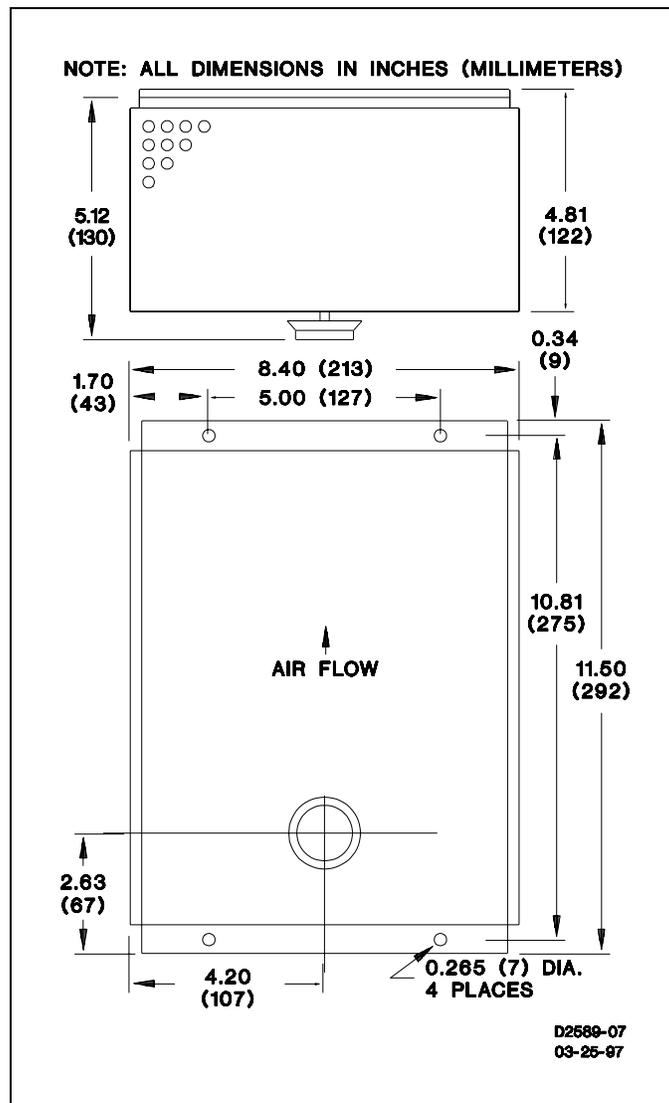
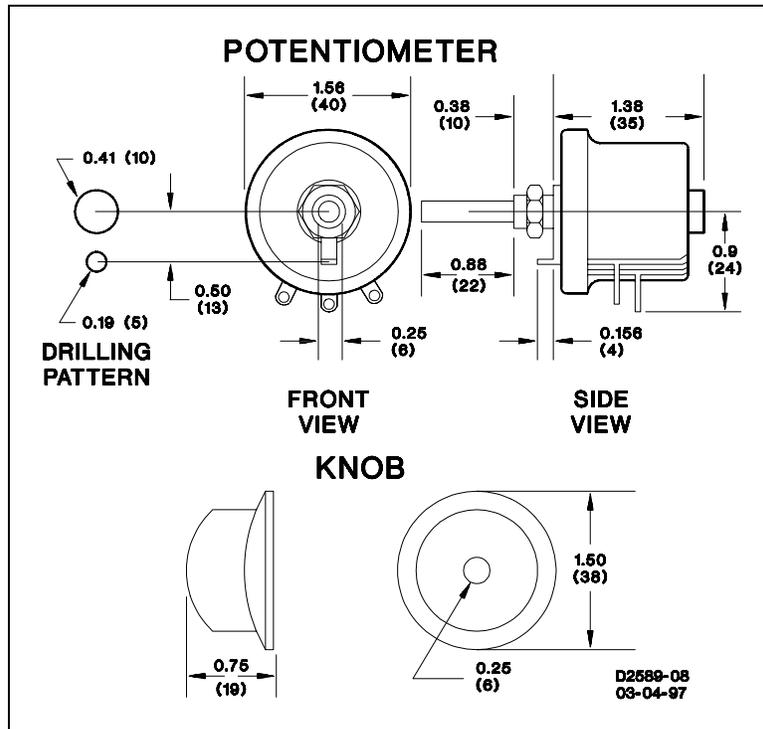

Figure 3-1. Outline Drawing.
Figure 3-2. Voltage Adjust Potentiometer (P/N 03456).
support. See Figure 3-2 for a typical interconnection diagram. This scheme uses the other contact on the buildup relay to connect dc voltage from the exciter armature directly to the exciter field. As an alternative, the regulator could be used as described in paragraph 2-3a. with an excitation support system accessory.
(1) Parallel operation requires additional components in the regulating system. These are resistor R25, transformer T3 and a current transformer CT1. Two of the components are included in a parallel equipped voltage regulator. These are R25 and T3. Current transformer CT1 is a separate item and must be interconnected as shown in Figures 3-2 or 3-3.
(2) These components allow the paralleled generators to share reactive load and reduce circulating reactive currents between them. This is accomplished in the following manner.
(3) A current transformer CT1 is installed in phase B of each generator. It develops a signal that is proportional in amplitude and phase to the line current. This current signal develops a voltage across resistor R25. A slider on R25 supplies a part of this voltage to the primary of the transformer T3. The secondaries of T3 are connected in series with the leads from the secondary of the sensing transformer T1, and the sensing rectifiers located on the printed circuit board. The ac voltage applied to the sensing rectifier bridge is the vector sum of the stepped down sensing voltage (terminals E1 and E3) and the parallel CT signal supplied through T3 (terminals 1 and 2). The voltage supplied to the sensing rectifiers by the parallel CT is very small in relation to the signal supplied by the sensing voltage. The regulator input sensing voltage (terminals E1 and E3) and the parallel compensation signal (terminals 1 and 2) must be connected to the generator system so as to provide the correct phase and polarity relationship.
(4) Regulators with single-phase sensing provide about 8% maximum droop while three-phase sensing regulators provide 6% droop. When generators are paralleled on the same bus and have different type sensing, care must be taken to compensate for these differences using the slide wire adjustment on the droop resistor R25.
(5) When a resistive load (unity P.F) load is applied to the generator, the voltage that appears across R25 (and T3 windings), leads the sensing voltage by  $90^\circ$ , and the vector sum of the two voltages is nearly the same as the original sensing voltage; consequently, almost no change occurs in generator output voltage.
(6) When a lagging power (inductive) load is applied to the generator, the voltage across R25 becomes more in phase with the sensing voltage and the combined vectors of the two voltages results in a larger voltage being applied to the sensing rectifiers. Since the action of the regulator is to maintain a constant voltage at the sensing rectifiers, the regulator reacts by decreasing the generator output voltage.
(7) When a leading power factor (capacitive) load is applied to the generator, the voltage across R25 becomes out of the phase with the sensing voltage and the combined vectors of the two voltages results in a smaller voltage being applied to the sensing rectifiers, then the regulator reacts by increasing the generator voltage.
(8) When two generators are operating in parallel, if the field excitation on one generator should become excessive and cause a circulating current to flow between generators, this current will appear as a lagging power factor (inductive) load to the generator with excessive field current and a leading power factor (capacitive) load to the other. The parallel Compensation circuit will cause the voltage regulator to decrease the field excitation on the generator with the lagging power factor load, and increase the field excitation on the generator with the leading power factor load, so as to minimize the circulating currents between the generators.
The voltage regulator will operate when mounted in any position, however, it should be vertically mounted to obtain optimum cooling when operating near its full rated output. The regulator can be mounted in any location where the ambient temperature does not exceed its ambient operational limits. Due to its rugged construction, the regulator can be mounted directly on the generator. The overall and mounting dimensions are shown in Figure 3-1. The mounting dimensions of the associated potentiometers are shown in Figures 3-2 and 3-3.